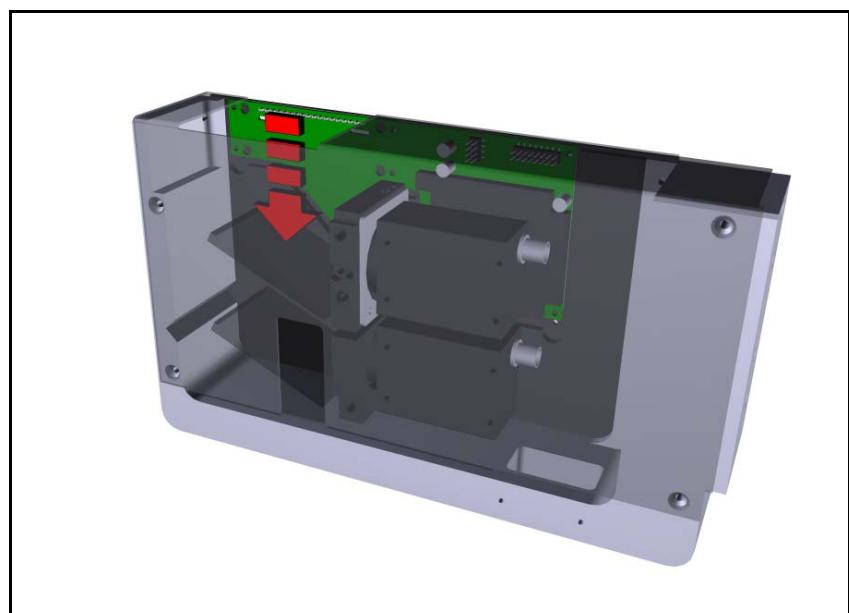

Figure 16-5. Dual vision camera outer mirror.
2. Clean the outer mirror (at the arrow in Figure 16-5) accessible without opening the camera cabinet.